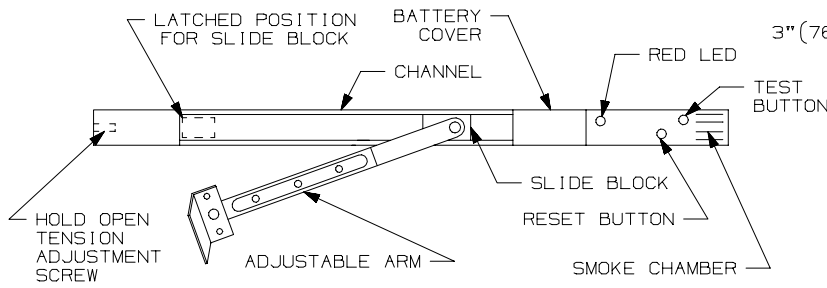

FIGURE 1
1. REMOVE BATTERY COMPARTMENT COVER (SEE FIG. 1) AND INSTALL ALKALINE 9-VOLT BATTERY. THE RED LED SHOULD NOW FLASH ONCE EVERY SECOND AND THE MOTOR WILL RUN BRIEFLY.
12. MOVE THE SLIDE BLOCK TO THE LATCHED POSITION (SEE FIG 1)
21. IF DESIRED, ADJUST HOLD OPEN TENSION BY TURNING ADJUSTMENT SCREW CLOCKWISE TO INCREASE OR COUNTERCLOCKWISE TO DECREASE (SEE FIG 1)